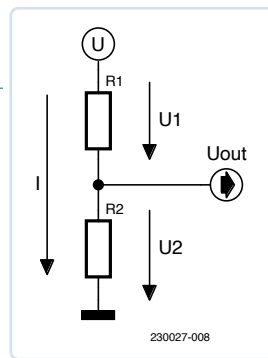

Figure 7: Unloaded voltage divider.
**Figure 7** shows an unloaded voltage divider, which is an idealized form of voltage divider. With a voltage (U) applied, a current (I) results at  $R_1 + R_2$ . A voltage of  $R_1 \times I = U_1$  now drops across resistor  $R_1$  and a voltage  $R_2 \times I = U_2$  across  $R_2$ , where  $U = U_1 + U_2$ . If you now want to measure, for example, a range from 0 to 10 V with an ADC that can only process 0 to 5 V, the voltage must be halved. It is obvious that this requires  $R_1 = R_2$ .